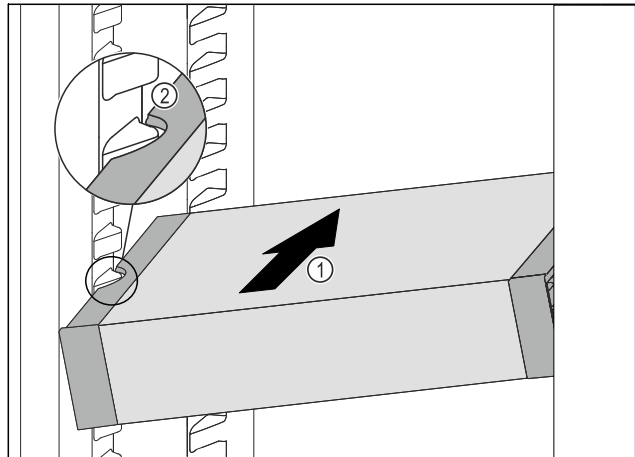

Fig. 197
- ▶ Insert the VarioSafe into the fridge section at an angle Fig. 197 (1) until the recesses in the side Fig. 197 (2) of the VarioSafe are at the level of the support rib in the fridge section.